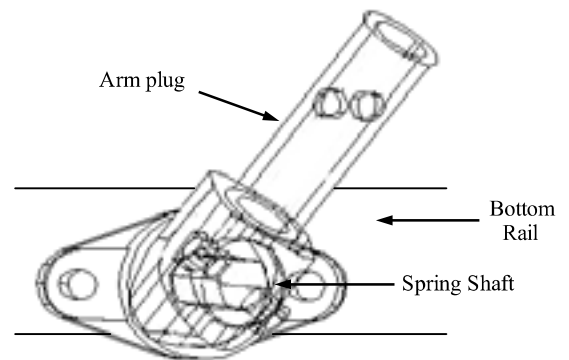

Figure 9a
After the arms are cut, the next step is to connect them to the spring shaft, see figure 9a. First slide the arm connector (L) onto the shaft and slide the arm onto the pipe on the arm connector (Note: the arm and connector should be pointing toward the rear of the dump body with the end of the arms resting on the ground). Slide the arm until it is against the plug on the connector, then, using a 3/8" drill bit, drill a hole through the arm and the pipe on the connector and fasten using a 3/8" x 2-1/2" hex Bolt, 3/8" flat washers, and a 3/8" nut. After bolting the arm to the arm connector, the next step is to get the proper spacing between the arms and the body.